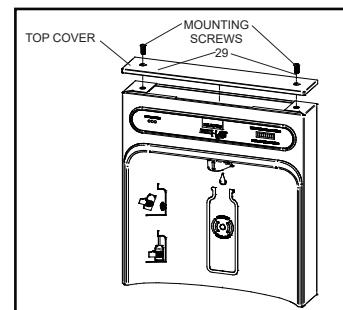

Figure 3
1. Remove two (2) mounting screws with 5/32" Allen wrench holding top cover to Bottle Filler. Remove top cover. Note: do not discard mounting screws; they will be needed to reinstall top cover. (See Fig. 3)
13. Once Bottle Filler is installed on wall plate tabs, water line, wire(s) and power cord are installed properly, push top of Bottle Filler toward wall and line up top cover two (2) holes.
14. Reinstall Top Cover on Bottle Filler (See Fig. 3) with two mounting screws from step 1 above. Caution: do not over tighten screws.